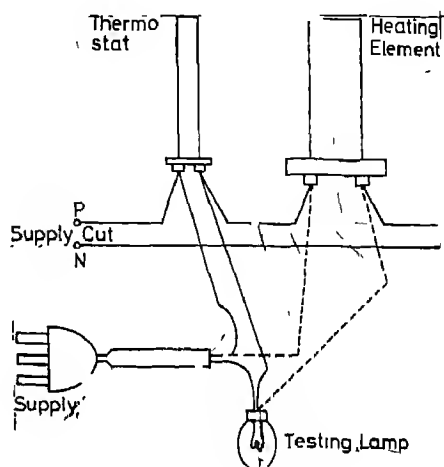

Fig. 14.1(b) Testing of an Electric Geyser.
**Geyser Diagram****(i) Circuit Diagram****Fig. 14.1(a) Parts of an Electric Geyser.****(ii) Electrical Connection**